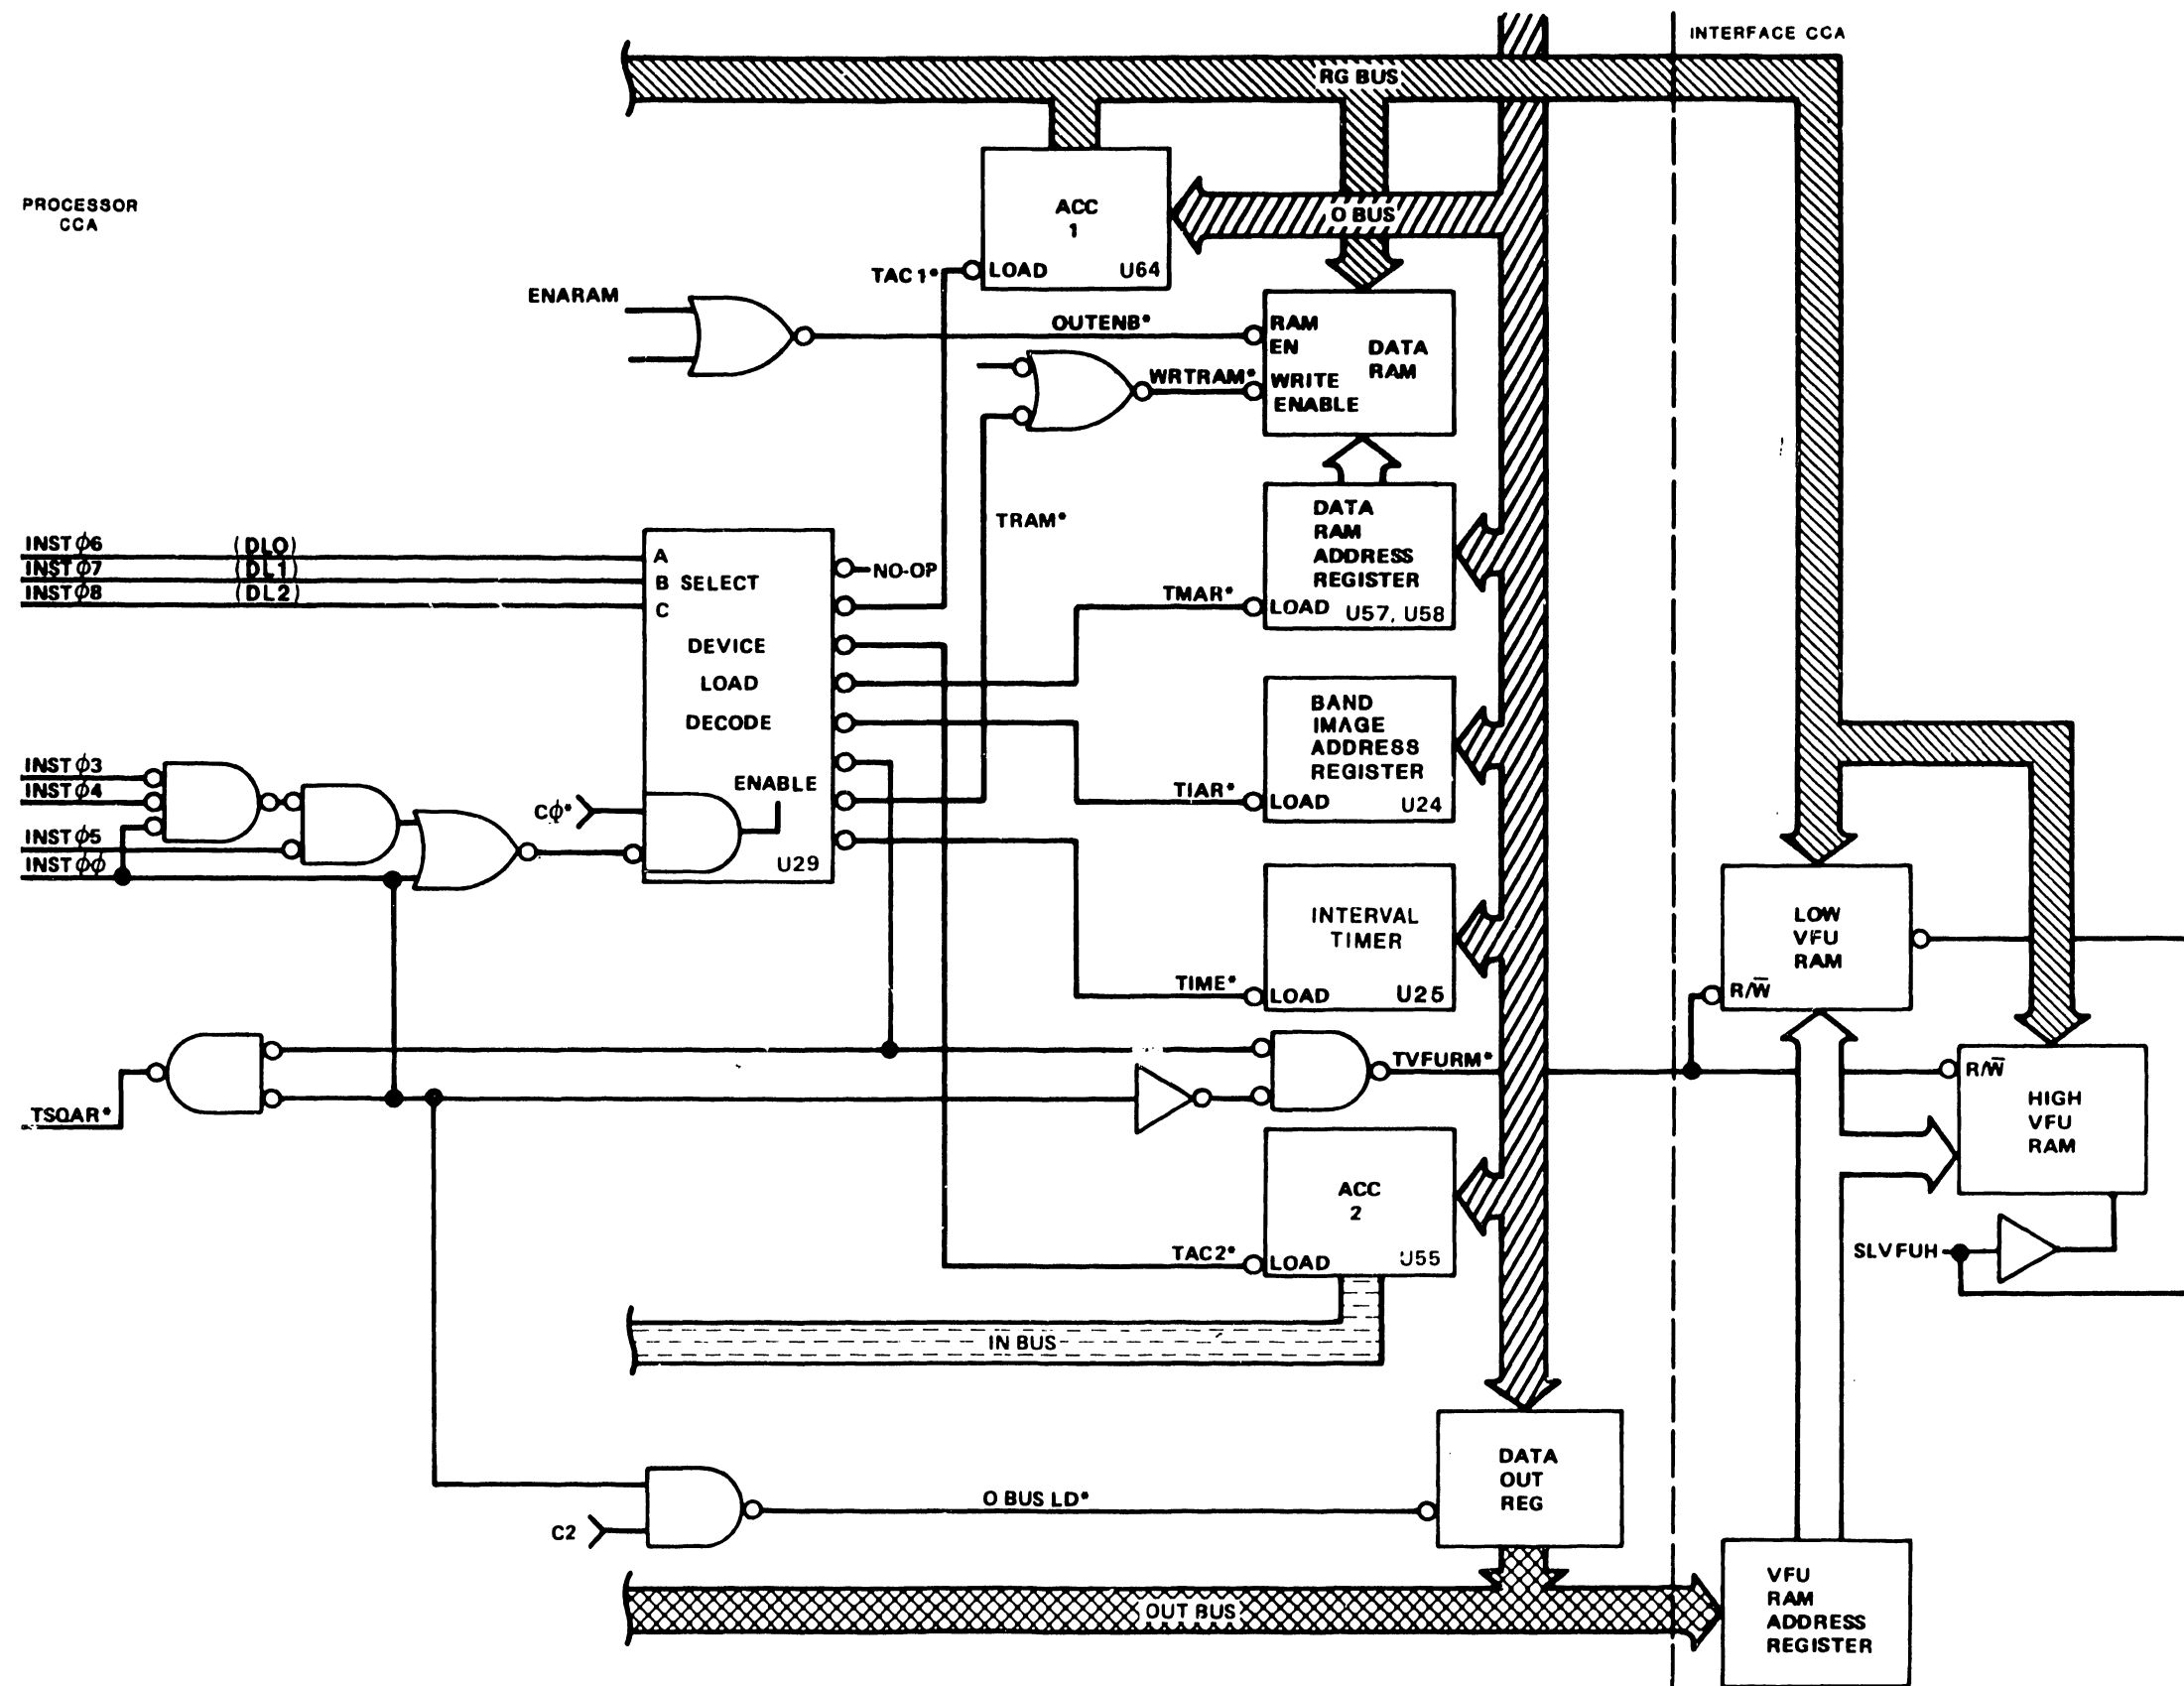

Figure 2-36. Device Loading Network
(c) **Device Load Network** - The Device Load Network specifies the device into which data from an ALU operation should be stored. **Table 2-27** lists the devices and their reference designations. Demultiplexer U29 (SH 29) decodes select inputs INST06, INST07, and INST08. The gating of instructions INST00, INST03, INST04, and INST05 provides one (1) enable input at pin 5. A second enable, C0\*, is the first phase of the three-phase system clock generator U14. The third enable input at pin 4 is tied low. **Figure 2-36** provides a block diagram of the Device Load Network.